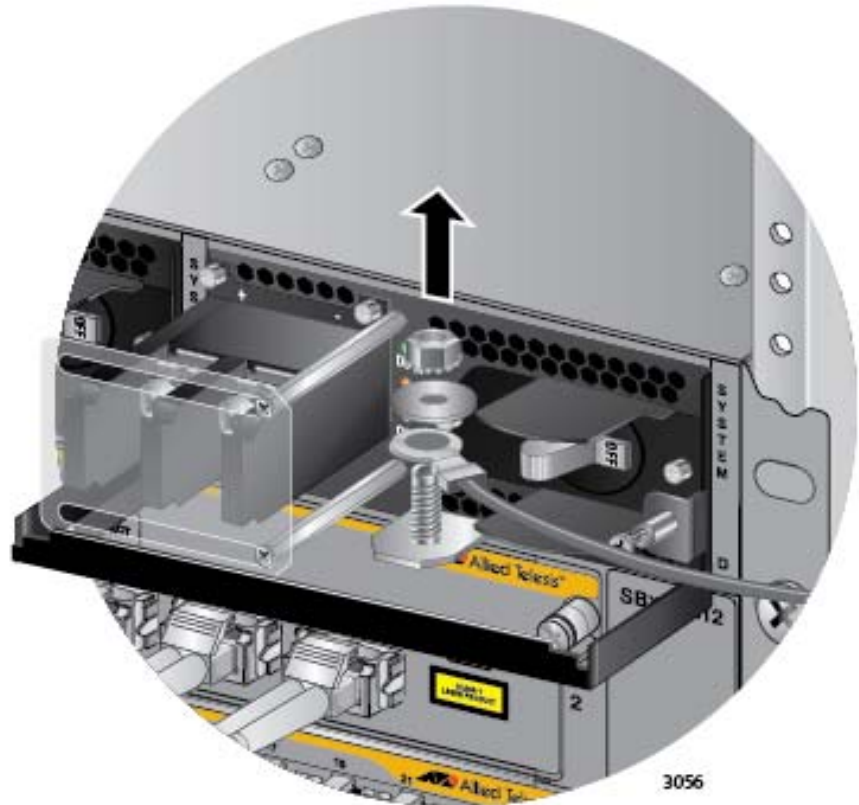

Figure 144. Removing the Grounding Wire
9. Use an 8 mm wrench to remove the grounding wire from the grounding post. Refer to Figure 144 on page 215.